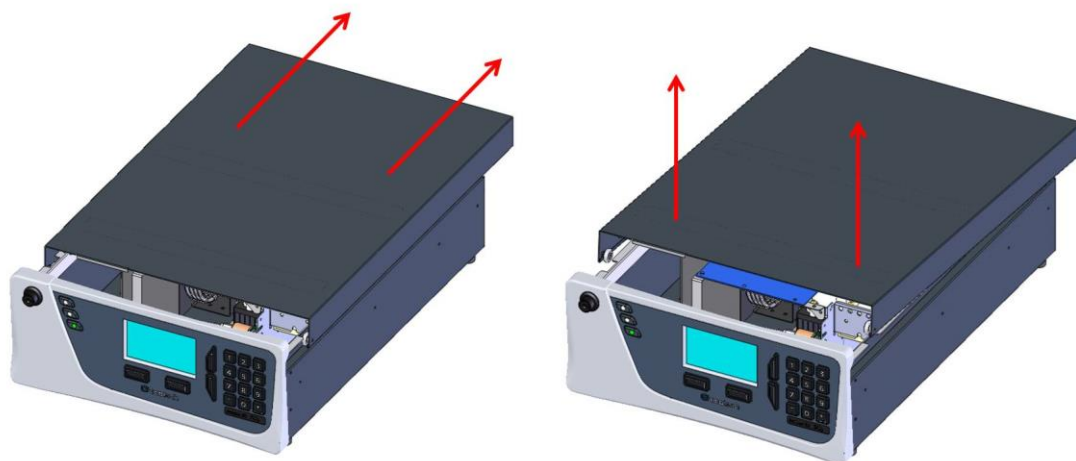

Figure 4 – Opening the Instrument
3. To completely remove the lid, slide the lid backwards until the rollers line up with the gaps in the track and pull the lid upwards to remove from the instrument (refer to Figure 4).